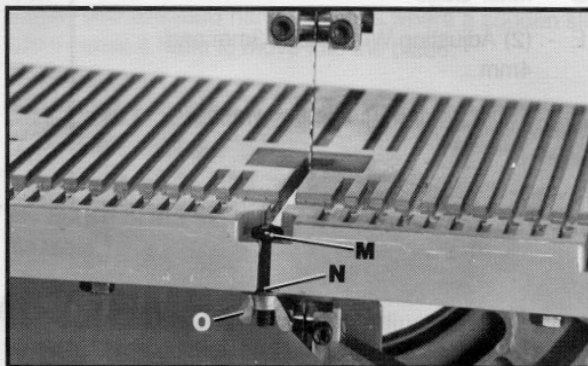

Fig. 7
7. Assemble the table alignment screw (M) Fig. 7, washer (N), and wing nut (O) to the table as shown.